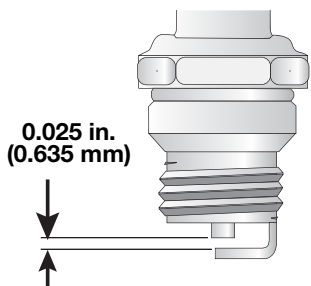

Fig. 31
- Replace cracked, fouled or dirty spark plug. Set the air gap at **0.025 in. (0.635 mm)** using a feeler gauge (Fig. 31).